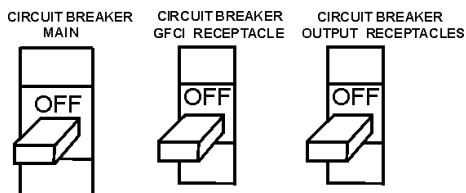

Figure 66. Main, GFCI and Load circuit breakers
1. Switch both the MAIN, GFCI and LOAD circuit breakers (Figure 66) to the "OFF" position.